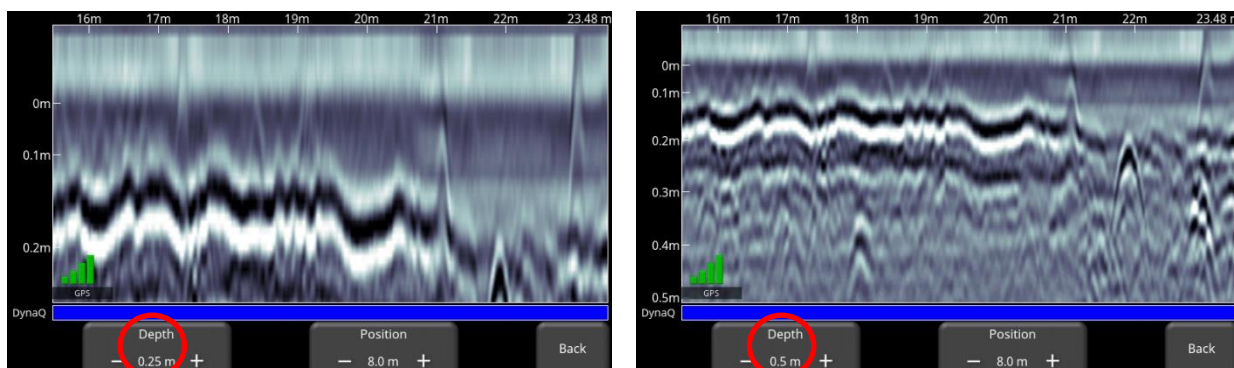

Figure 7-10: Changing the displayed depth
- **Depth** – Pressing **+** and **-** under the **Depth** button allows you to change the maximum displayed depth (Figure 7-10). This is based on time window (6.1.2) set in the System Configuration menu, as well as the currently selected velocity.